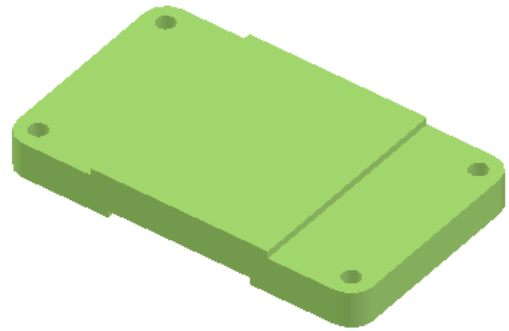

Figure Step 2
Step 2 On layer: Surface Base, surface the complete model. Use faces, meshes, regions, or a mixture of them. (Figure Step 2)